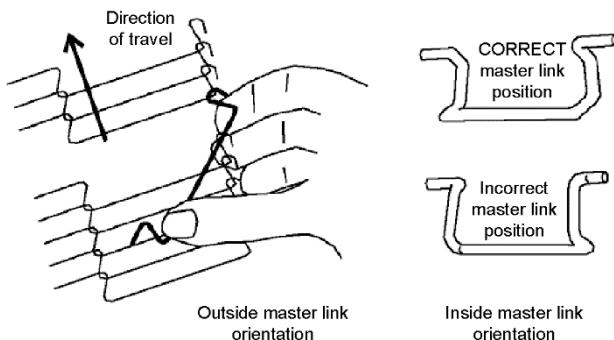

Figure 23. Conveyor and Master Link Orientation
- d. Replace the belt on the conveyor frame. Check that the conveyor belt links are oriented as shown in Figure 23, and that the smooth side of the conveyor belt faces UP.
- e. Connect the inside master links. Check that the links are oriented as shown in Figure 23.
- f. Connect the outside master links. Note that the outside master links each have an open hook on one side. This hook aligns with the hooks along the sides of the other conveyor links. See Figure 23.